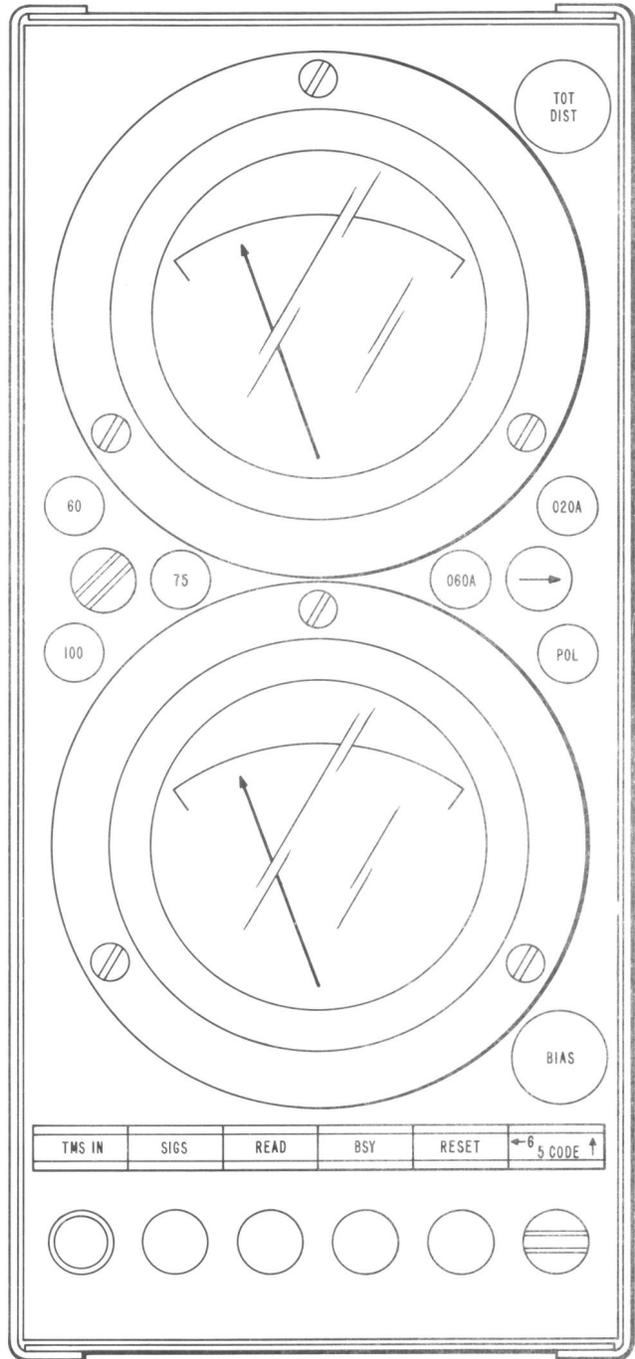
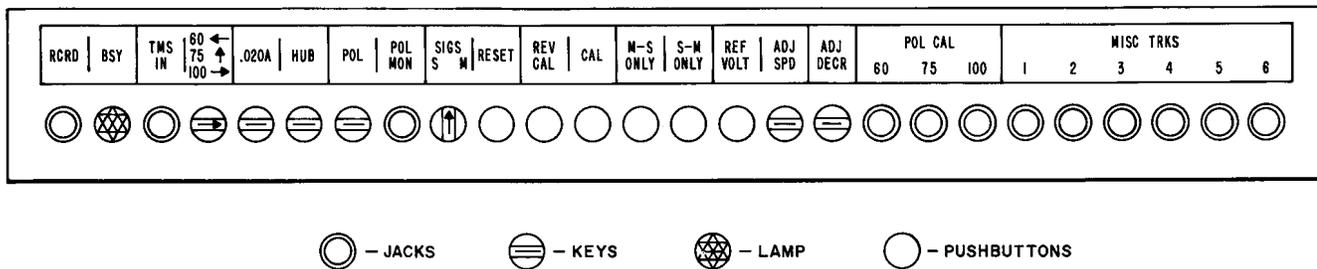

Fig.2 — Testboard Extension — Jack and Meter Circuit
Fig. 3 — Miscellaneous Jacks and Keys
1.07 Figure 2 shows the face of the extension unit, and Fig. 3 shows the miscellaneous jack strip with its designations.
2.01 At certain times, for instance when a set is first put into service and whenever tubes or relays are changed, a complete adjustment is required. At more frequent intervals the set is checked following a simplified adjustment procedure. Reference should be made to Fig. 3 and Table A in the following procedures.